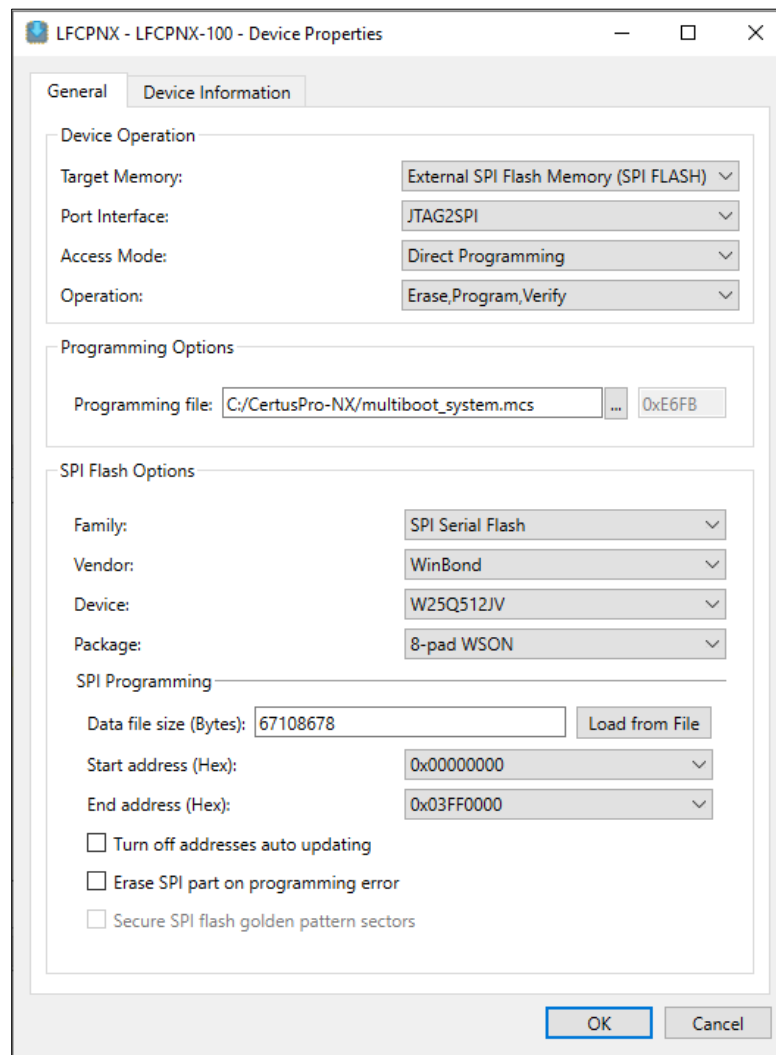

Figure 6.30. Device Properties Window to Setup MCS Programming File
3. To program the **multiboot_system_wb.mcs** or **multiboot_system_mcrx.mcs** file, locate the file in the executables folder that you downloaded and add the file in the Programming file area. The Start Address and End Address are allocated automatically. Confirm the settings as shown in Figure 6.30.